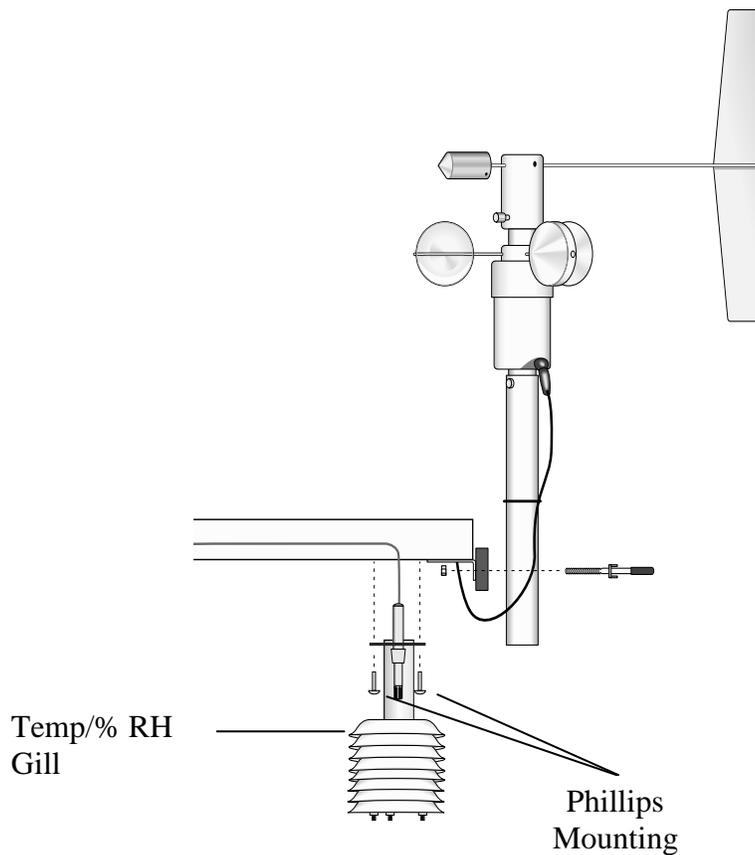

Figure 33
Install the Wind Sensor as shown in Figure 33 and 34 after the sensor arm is securely installed.
2. Insert the mounting shaft through the U-Bolt on the sensor arm. Adjust the mounting shaft so that the cable and connector coming out the end of the sensor arm can plug easily into the mating connector on the wind sensor. Lightly tighten up the U-bolt clamp nuts. See Figure 33.